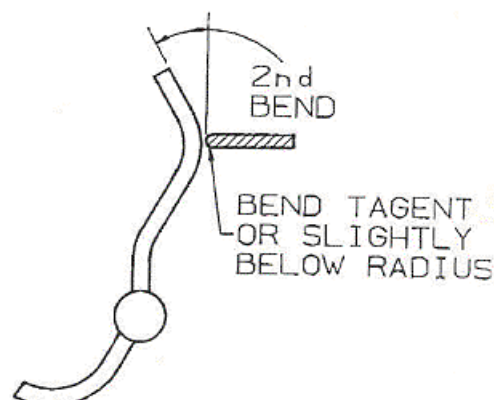

Figure 3-6. S&K pin adjustment if reading is low at 60 mmHg.
27. Remove the test pointer and test dial. Position the calibration tool over the adjusting pin and push it down to the cross shaft. Lift the tool approximately 1/16 inch and bend the pin approximately 15 degrees. See Figure 3-6. While maintaining this position, lift the tool to point where the pin makes contact with the gear sector. Bend the pin down 30 degrees. Remove the tool and release the gear sector. Check for gear sector starting position as defined previously. Adjust if necessary. Re-assemble the test dial and test pointer. Recheck the span and adjust as necessary prior to inspection at the intermediate points.